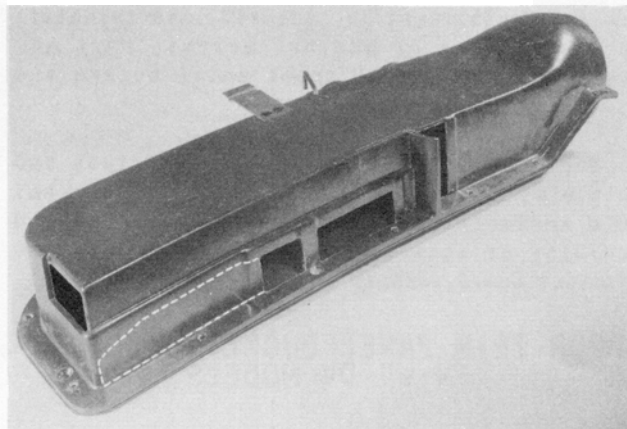

FIG. 6
3. Scribe the bottom surface of the duct, as shown by the dotted lines on Figure 6.